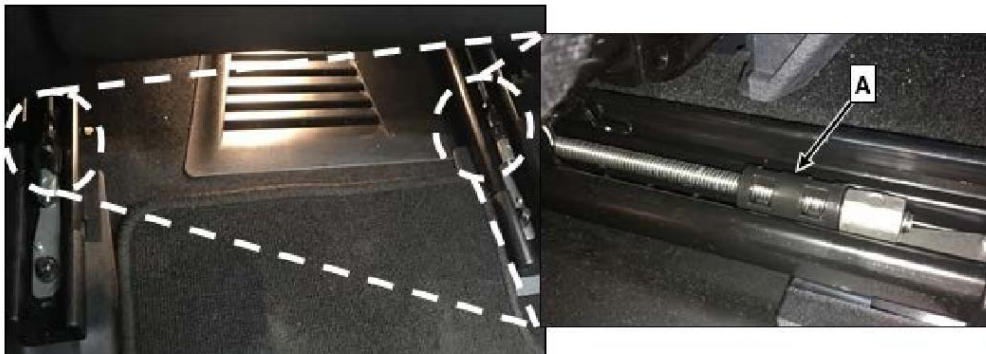

Figure 1
- 1.2. Check for presence of seat travel limiter **(A)** (figure 1).